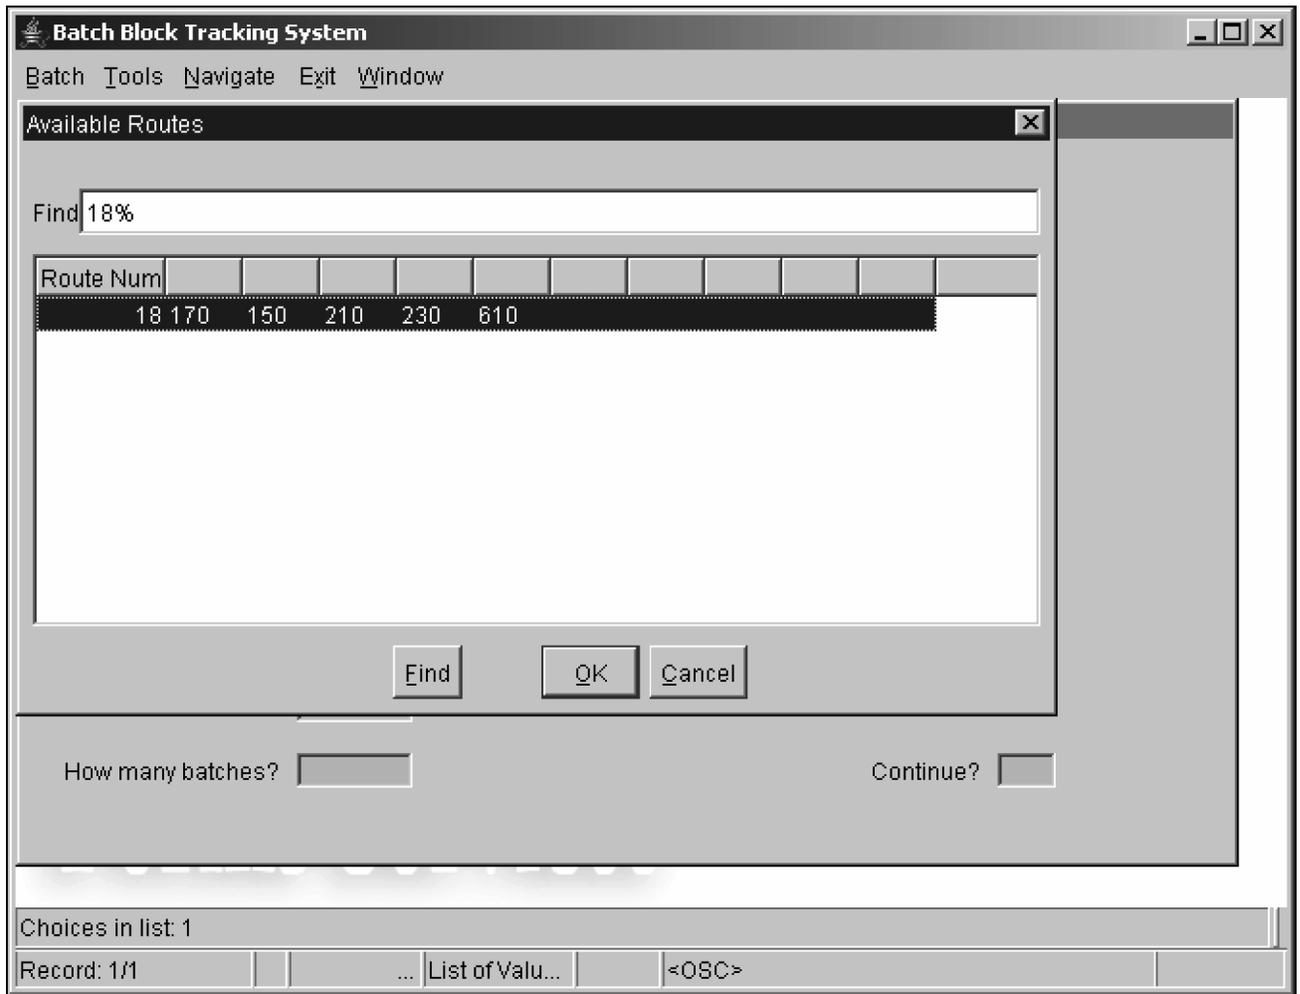

Figure 3.10.5-31 Available Routes Screen
- (7) Received Date- Enter the “Received Date” from the Form 813 (the current date is automatically generated) in Julian Date/Year format (NNNYYYY) then press **<ENTER>**.
- (8) Alternate Cycle Start Date- Automatically generated according to the Received date then press **<ENTER>**.
- (9) Days in Cycle- Enter the “Days in Cycle” then press **<ENTER>**.
- (10) Release Date- Automatically generated then press **<ENTER>**.
- (11) Release Cycle- Automatically generated then press **<ENTER>**.
- (12) Route- Enter the number that corresponds to the Routing Path or click on “Tools”. Click on “List of Values” then press **<ENTER>**. **See Figure 3.10.5-31**
- (13) A pop-up window appears with message. Select “OK”. The cursor is located on the FLC field. **See Figure 3.10.5-32**